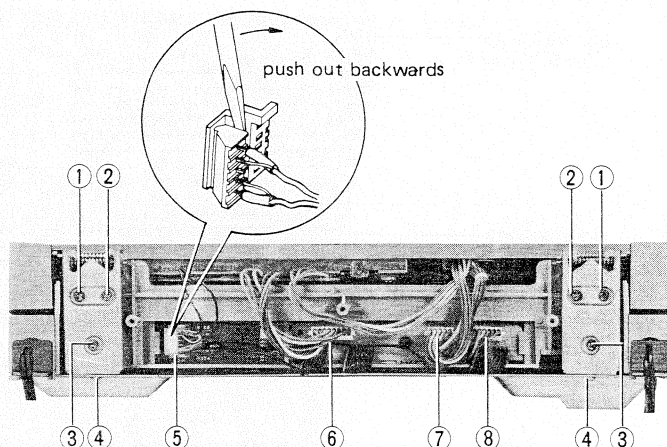

Fig. 5
5-(1) Removal of surface cover (Fig. 5)
2. Remove the respective securing screws ① - ④ of the right and left hinges.